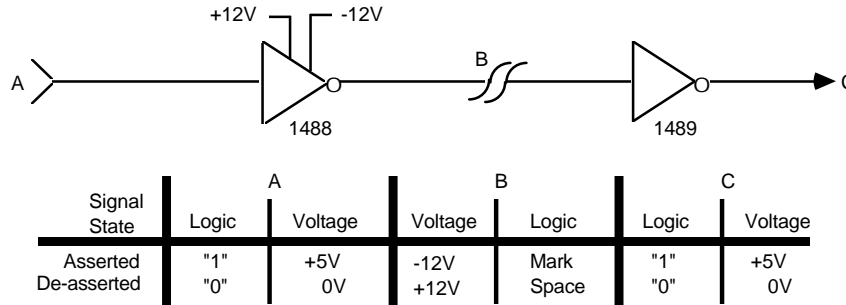

Figure 6-4: Typical RS232C Transmission Line Schematic
* For the purpose of this discussion “asserted” is defined as the state of the signal which will produce a logic “1” (+5V) at the output of the RS232C line receiver. “De-asserted” is the opposite condition (see Figure 6-4).